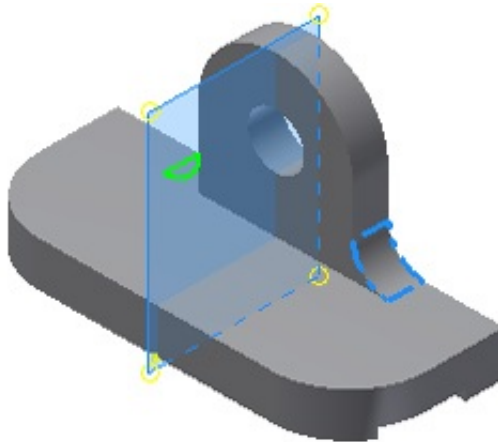

Figure 6-160 Selected fillet feature and the midplane
2. Select the filleted feature which is to be mirrored. Figure 6-160 shows the selected fillet feature.